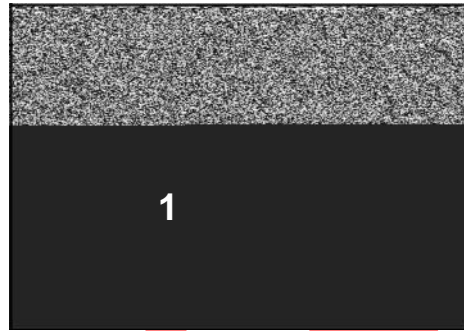
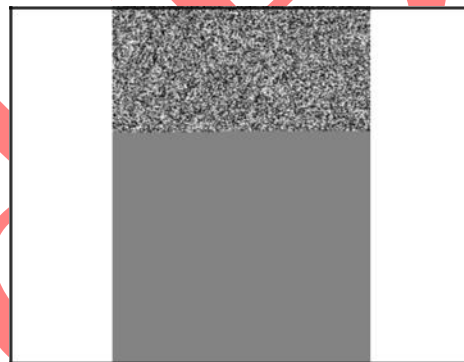

Figure 15
Figure 16
1. Remove choke knob (**A**, Figure 15 and Figure 16).
1. Connect stop switch wire (**C**, Figure 15) and primer hose (**D**).
4. Using a wire gage, check and set the gap (A, Figure 15) per Section 12 - Specifications.